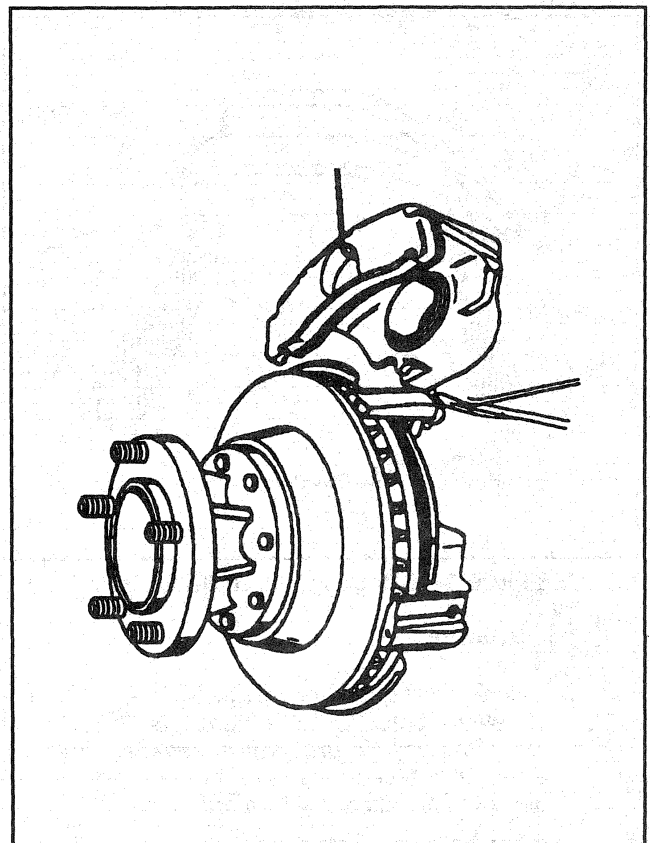

Figure 7—Suspending the Caliper
Remove or Disconnect (Figures 7 and 8)
- Suspend the caliper (Figure 7).